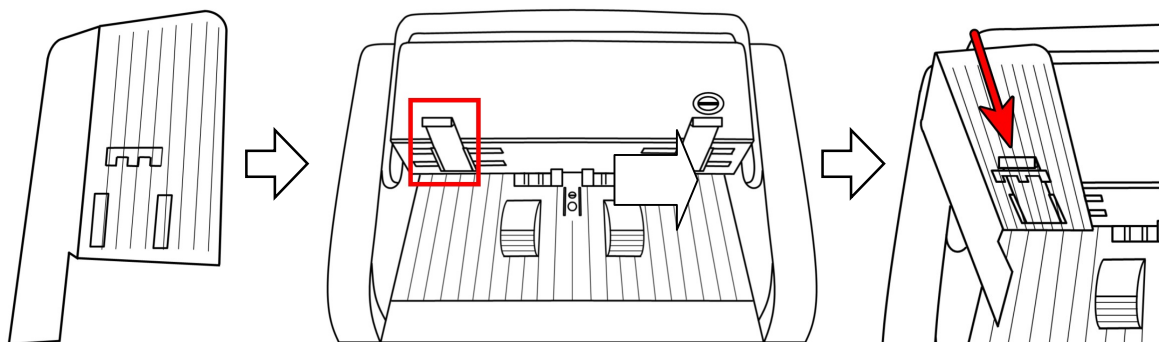

Figure 3
1) Take out the left note guider from the packaging box, align the guide rail on the back of the left note guider with the transparent clip of the machine, and load the note guider vertically down into the clip until the sound of "click" is heard, indicating that the left note guider is installed in place, as shown in Figure 3 below: